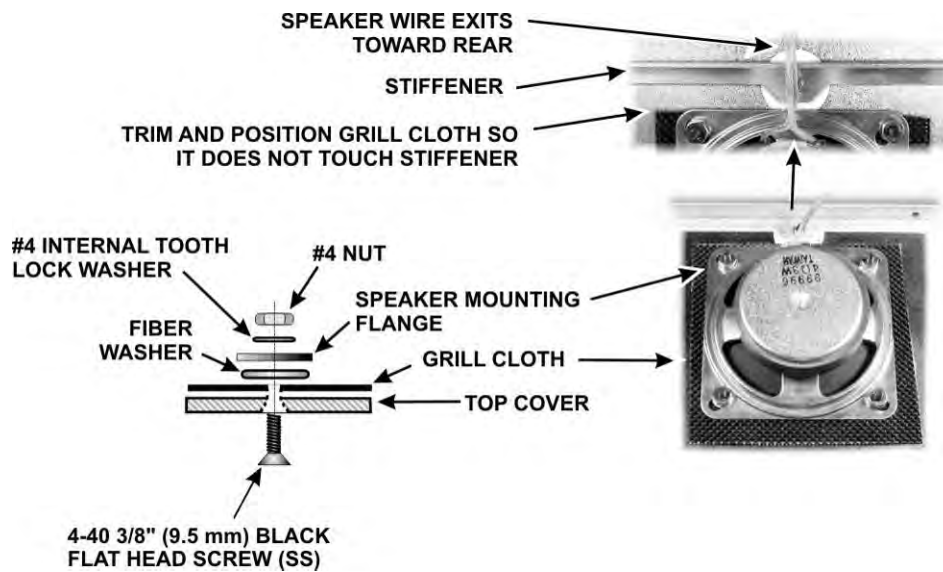
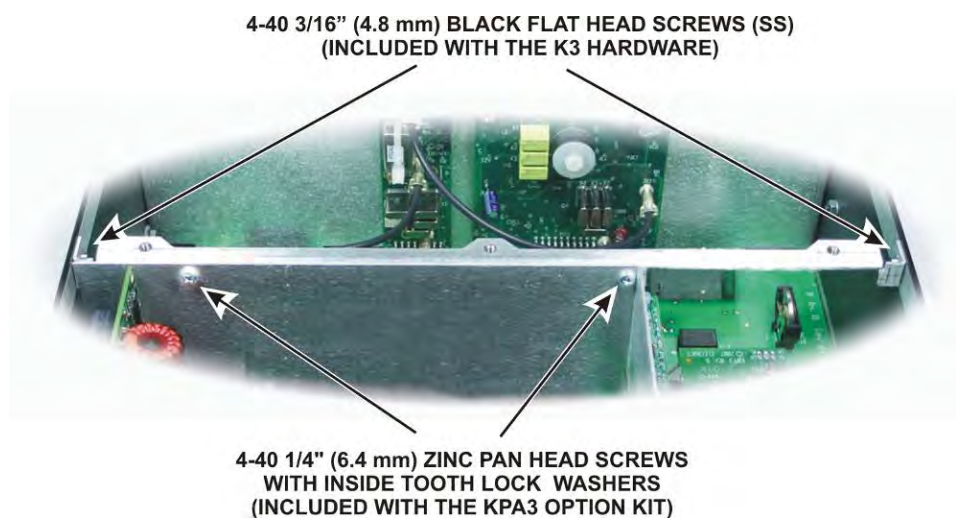

Figure 78. Mounting Loudspeaker.
Figure 82. Installing the Chassis Stiffener Bar.
- Trim the grill cloth to cover the speaker grill openings and overlap the four holes for the loudspeaker mounting screws. Mark and cut four holes in the grill cloth for screws to pass through the cloth. The grill cloth is shown as it must fit after the speaker is mounted in Figure 78. Normally, the stiffener will remain attached to the K3 when you remove the top cover. If you install the KPA3 100-watt amplifier, the stiffener will be attached to the KPA3 shield and cannot be removed with the cover (see Figure 82 on page 58). The grill cloth must be trimmed as shown so it cannot become trapped between the chassis stiffener and the top cover when the cover is removed and replaced.
□ Mount the speaker using the hardware shown in Figure 78. A suggested procedure for doing this is as follows:
Remove the stiffener bar from the top cover and install it on the chassis as shown in Figure 82. The hardware required to attach it to the shield are in the KPA3 Option kit. The black flat head screws used to attach it to the side panels are part of the K3 kit hardware.